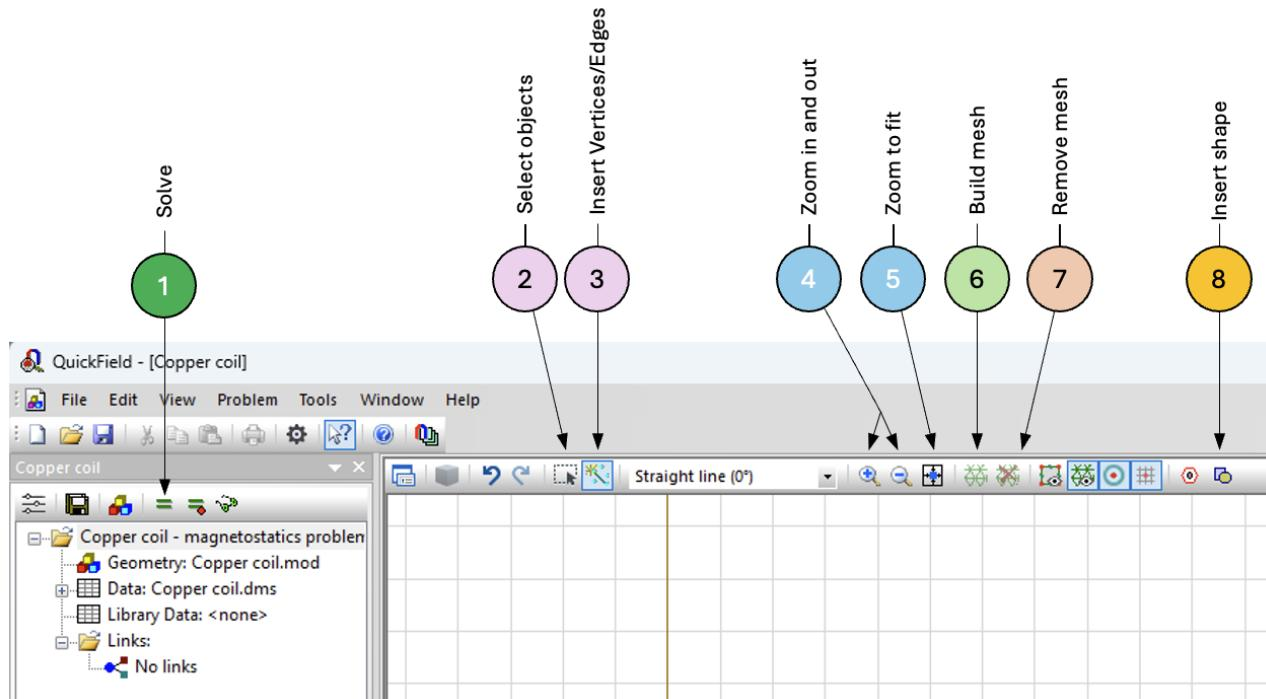

Figure 4: The location of the tools required to set up and solve the model.
- Click on the “Insert Vertices/Edges” toolbar button (see (3) in Figure 4).
- Click on the “Insert Shape” toolbar button (see (8) in Figure 4).
- Click the ‘zoom to fit’ button (see (5) in Figure 4).
- Click the "Insert shape" button again (see (8) in Figure 4).
1. Click the “Select Objects” button (see (2) in Figure 4).
- Click the “Build Mesh” button (see (6) in Figure 4)
- Click the “Solve” button (see (1) in Figure 4).
To change the dimensions of the solenoid geometry (the rectangle that represents the solenoid) you can drag and drop the required corner vertices to new locations. To do this, first switch the mesh off by clicking on the “Remove Mesh” button (see (7) in Figure 4), then simply click on the vertex you want to move and let go – this will change its colour. Then click and hold it while dragging it to its new location, before releasing the click. Tip: You don’t want to make the solenoid too large within the computational domain so restrict each of the six dimension changes to nothing greater than 5 or 10 mm. After each dimension change, switch the mesh back on before re-solving the model.
- b. Each toroidal field (TF) coil in ITER has 134 turns, each carrying 67 kA. Each turn is a cable with a diameter of about 5 cm (see the wall-display outside the experimental labs). The inner radius of the TF coil is ~ 1 m and the outer radius is ~ 8 m. Using Ampere’s law, calculate (i) a very rough value for the maximum magnetic field near the turns and (ii) the field at the centre of the plasma (NB: a very rough and simple calculation is preferred).